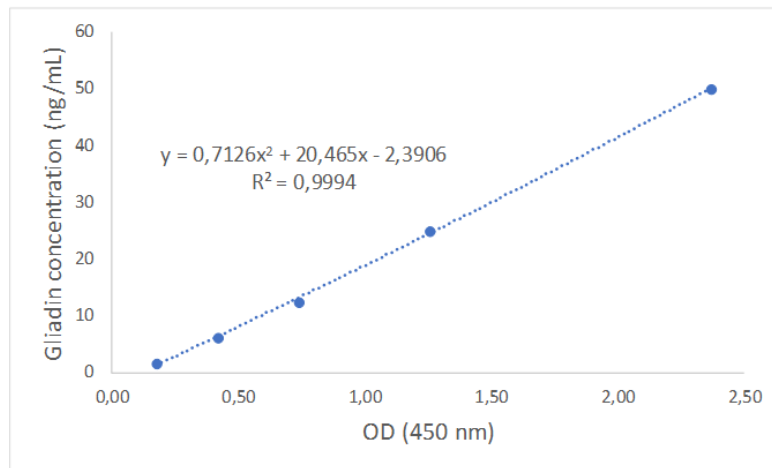

Figure 4. Example of the standard curve
12.2. Prepare a standard curve (see Figure 4) by plotting gliadin concentrations of each GlutenTox standard (y-axis) versus the respective absorbance values (x-axis) obtained from the calibration standards using an appropriate software (for example Excel). Please contact Hygiena Diagn3stica Espa1a to obtain the Excel template.
12.3. Calculate the equation that defines the standard curve by second-order polynomial regression using a suitable software (for instance Excel). An example is shown in Figure 4.